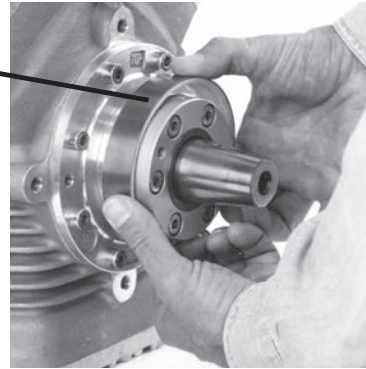

Fig. 3
- Remove the clamping ring (10) and the oil felt (9) (for this see Fig. 3 on page 17).
- Unscrew the screws (8) from the shaft seal cover (6) .
- Remove the gasket residues and the shaft seal cover gasket (5) from the bearing flange.
- Remove the clamping ring (1) and the oil felt (2) (see Fig. 3)
- Insert the oil felt (2) included in the repair kit and mount the clamping ring (1).